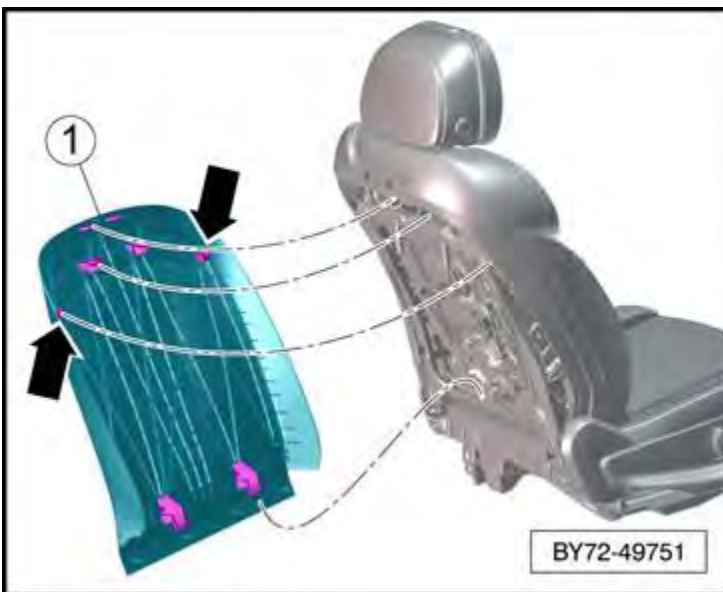

Figure 42
4. Remove the rear seat clamshell (see Figure 42)